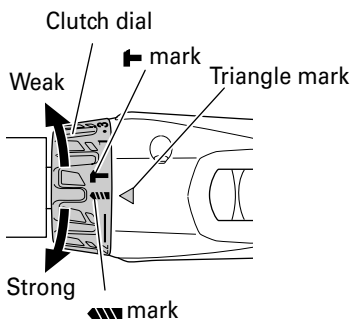

Fig. 9
6. Confirm the clutch dial position (See Fig. 9).
(2) Tightening torque indication (See Fig. 9)
(3) Adjusting the tightening torque (See Fig. 9)
9. Rotation to Impact changeover (See Fig. 9)